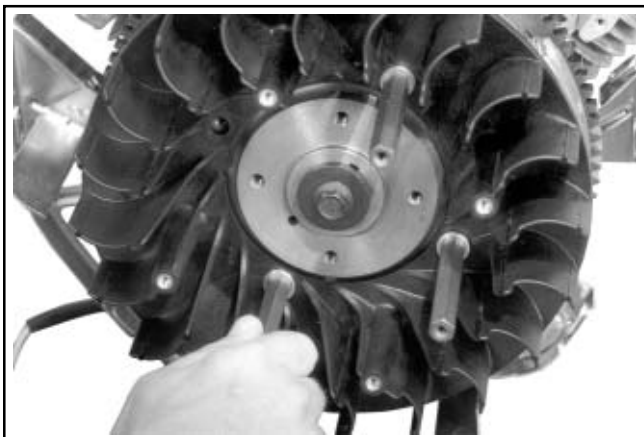

Figure 11-32. Installing Supports for Metal Grass Screen.
1. If a metal grass screen is used, with threaded individual supports, install a spacer washer on the external threads. Apply blue Loctite® No. 242 (removable) onto the threads. Install the four supports as shown in Figure 11-32.